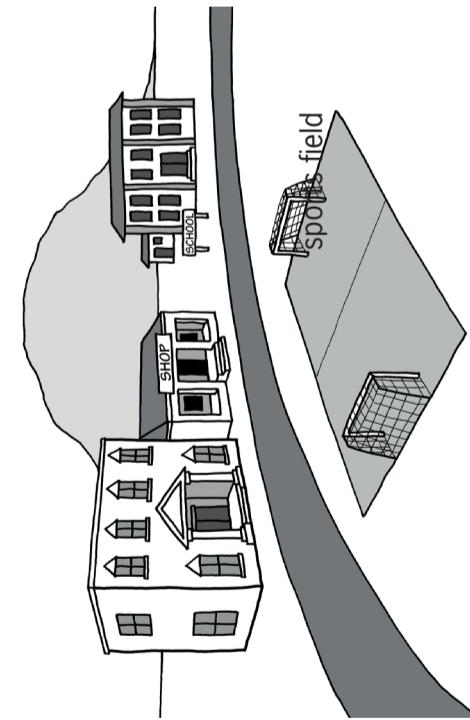

Figure 3
3. Copy the picture of the village in Figure 3. Where do you think the cell phone tower should be placed? Also decide what type of tower it should be, and make a rough drawing of the tower on the right place in the picture.